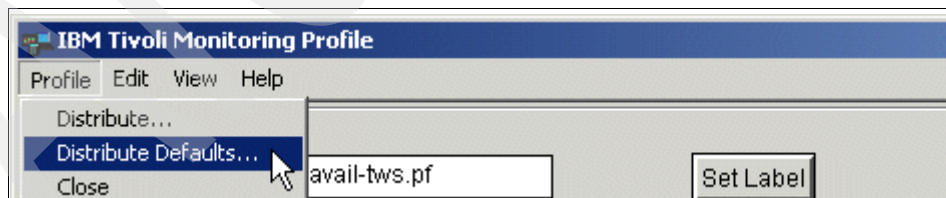

Figure 9-95 Setting distribution defaults for appavail-tws.pf profile
18. Select **Profile** → **Distribute Defaults...** as shown in Figure 9-95.